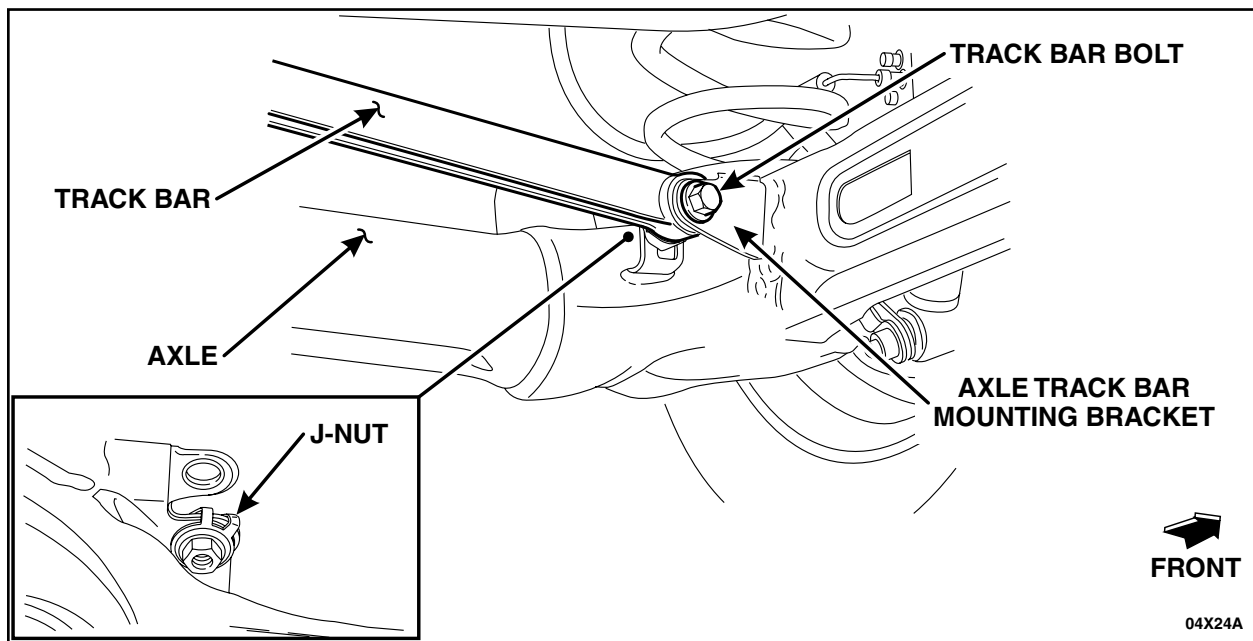

FIGURE 4
4. Disconnect the track bar from the rear axle. See Figure 4.
18. Install the J-nut on the rear axle track bar mounting bracket. Position the track bar on the rear axle track bar mounting bracket and install the track bar bolt. See Figure 4.